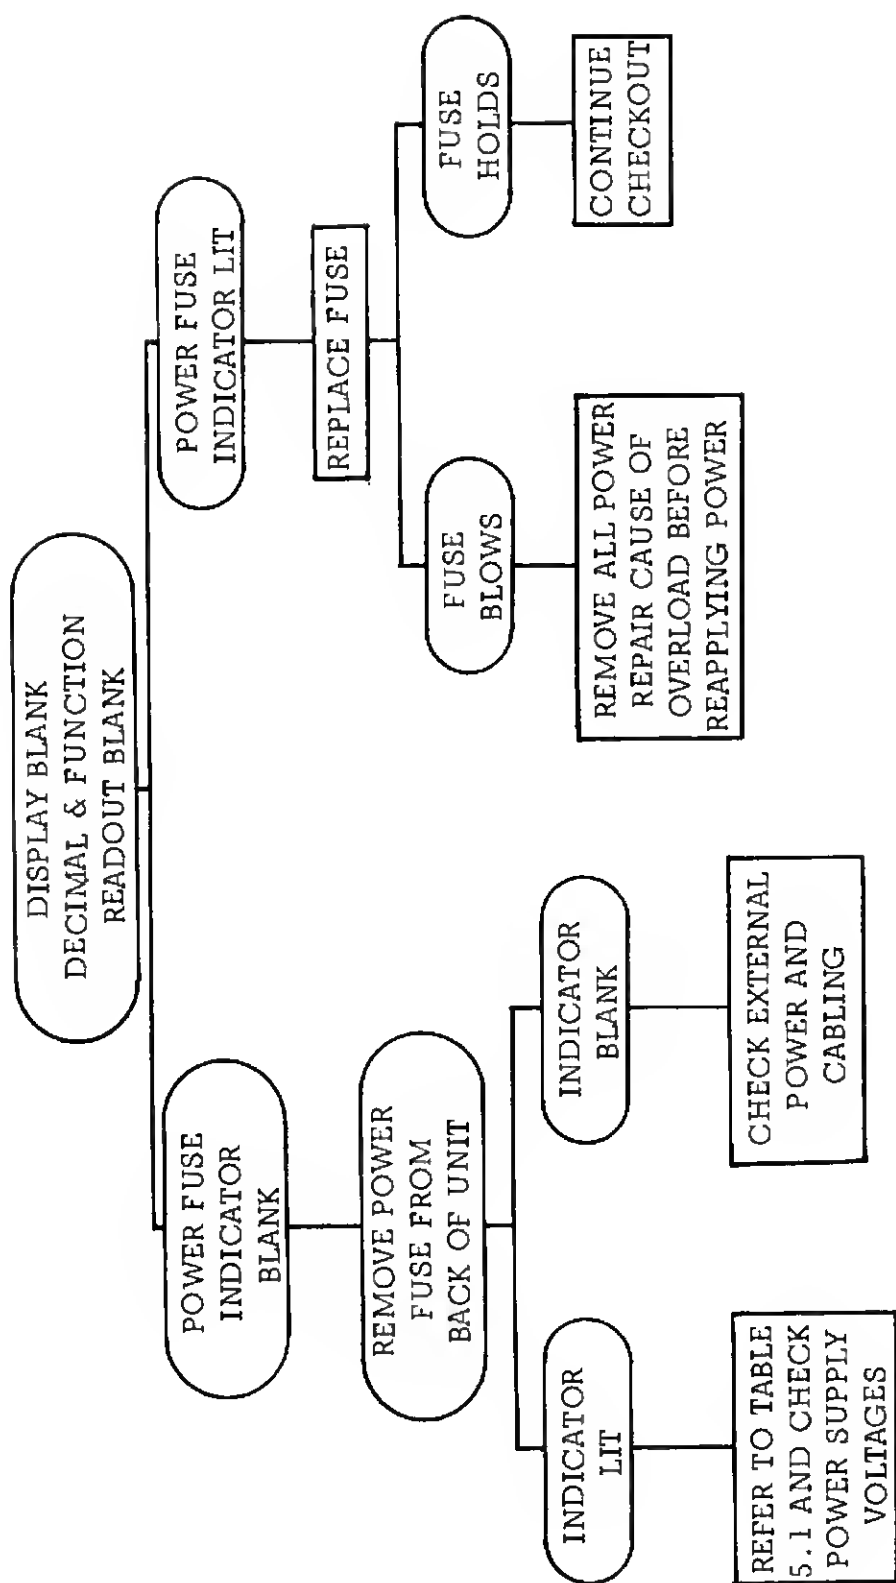

Figure 5.1. Troubleshooting - Display, Decimal & Function Readout Blank
- (b) Set MODE switch to READ. If readout is blank, refer to figure 5.1.
5.24. Unless otherwise noted, the following troubleshooting charts, (figures 5-1 through 5-5) are valid only when the instrument is programmed as stated below.